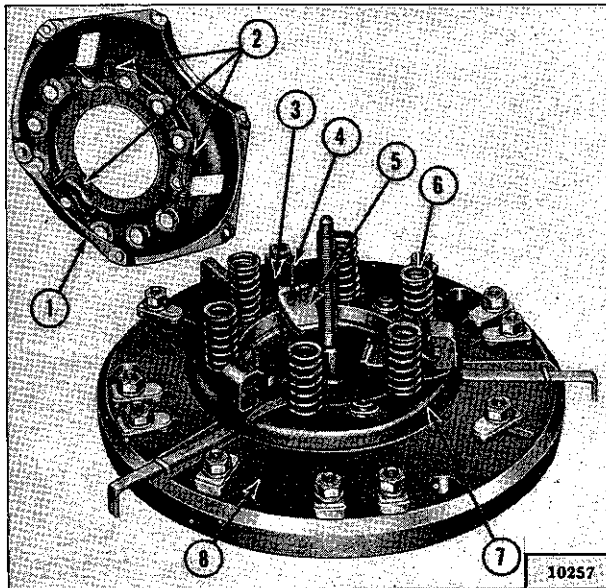
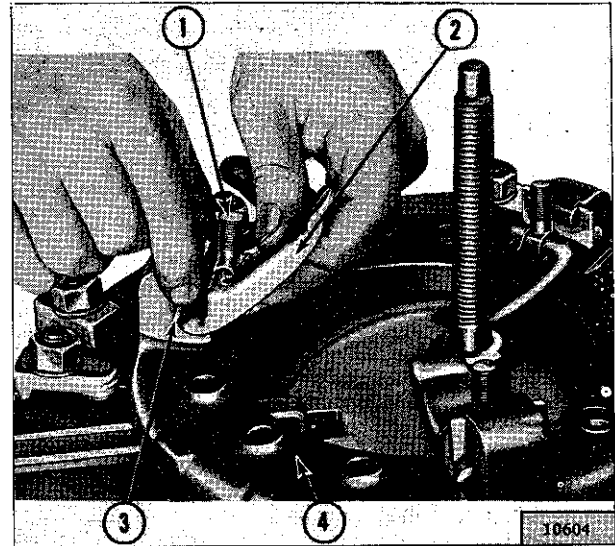

FIG. 199—SIX-SPRING CLUTCH COVER PLATE REMOVED
FIG. 200—ASSEMBLING LEVERS ON CLUTCH PRESSURE PLATE
- b. Install the plain washer and nut on the fixture (2), and tighten down the nut to relieve the spring load on the pressure plate eyebolt nuts.
- c. Remove the pressure plate lever eyebolt nuts (3).
- d. Release and remove the fixture nut and washer. Lift off the pressure plate cover exposing the springs, levers and pressure plate for inspection or replacement (Fig. 199).
- b. Assemble the eyebolts, lever pins, pressure plate levers and struts on the pressure plate (Fig. 200). Install the six pressure plate springs on the pressure plate as shown in Fig. 199. Apply Lubriplate to all contact and pivot surfaces of the eyebolts, lever pins and levers.
If working on a six spring pressure plate do not install adjacent to each other, install them as shown in Fig. 199. Apply Lubriplate to all contact and pivot surfaces of the eyebolts, lever pins and levers.